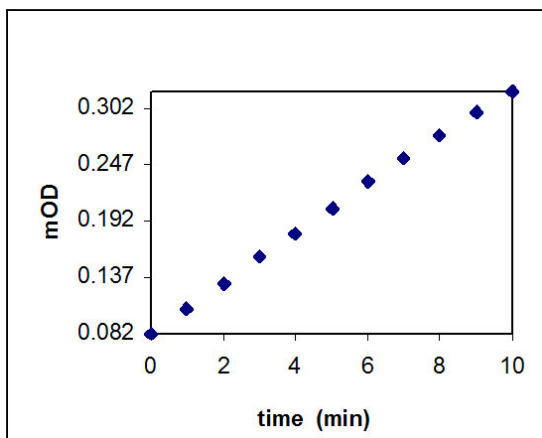

Figure 1. Plot of OD vs. time. Slope= $V=2.42E-02$ OD/min
1. Plot data as OD versus time for each sample (see Figure 1).